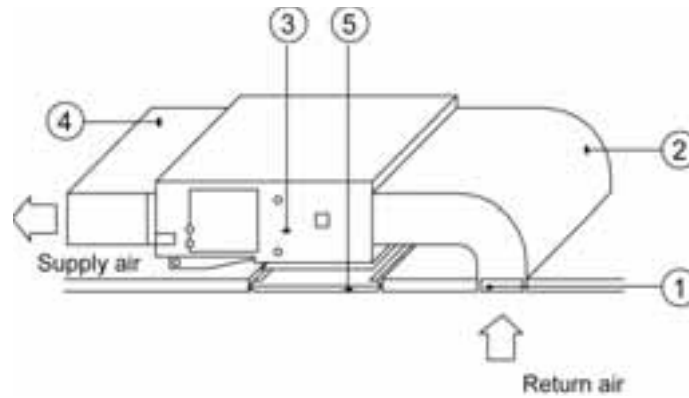

Fig 4.4.5
- (2) The installation method can be configured to match the requirements of the building and maintenance etc., as shown in Fig. 4.4.5.